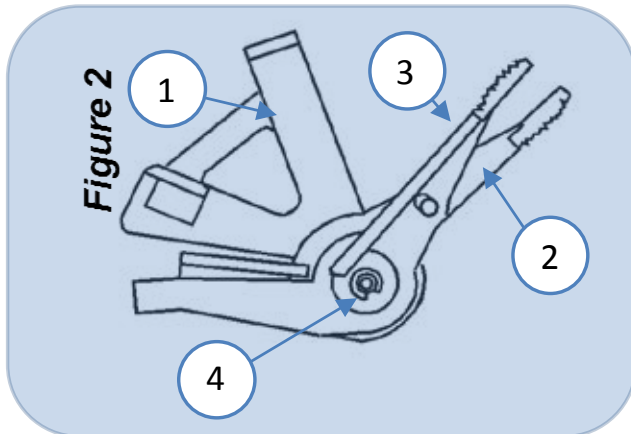

Figure 2
REMOVAL of the Force Adjustment Levers (Figure 2)
- Remove the circlip (No. 4 in figure 2) of the lever bar.
REASSEMBLING of the Force Adjustment Levers (Figure 2)